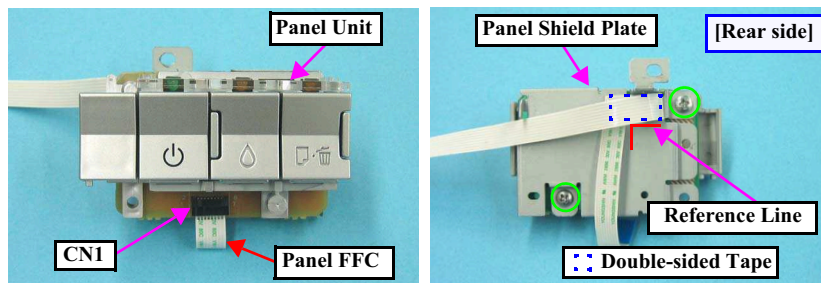

Figure 4-29. Removing the Panel Board / Buttons (2)
- Attach the Panel FFC with double-sided tape along with the reference line shown in Fig.4-29 (p.66).